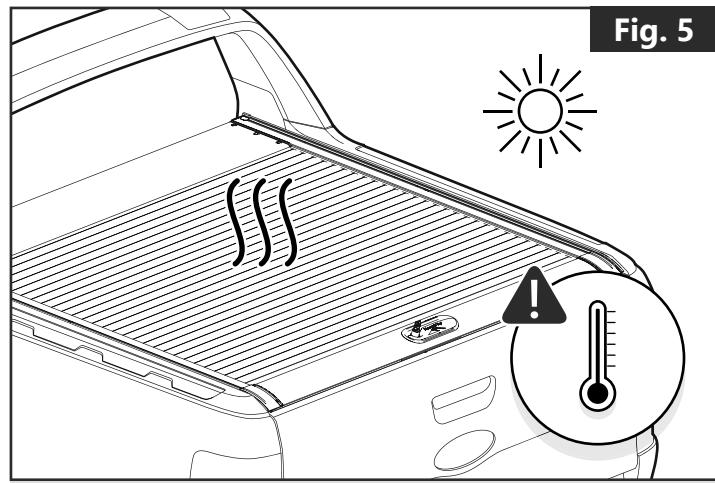

Fig. 5
- Temperatures can be very high under the cover when closed. (**Fig. 5**)